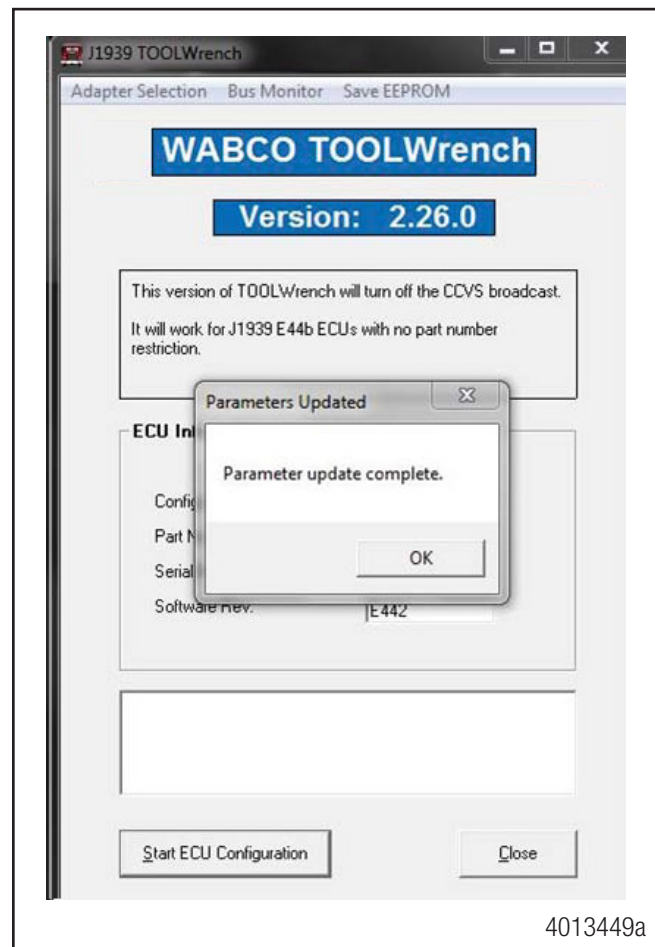

Figure 4
10. Click on the "Start ECU Configuration" button. Figure 4.
11. When the parameter update has been completed successfully, the notification shown in Figure 4 will be displayed.